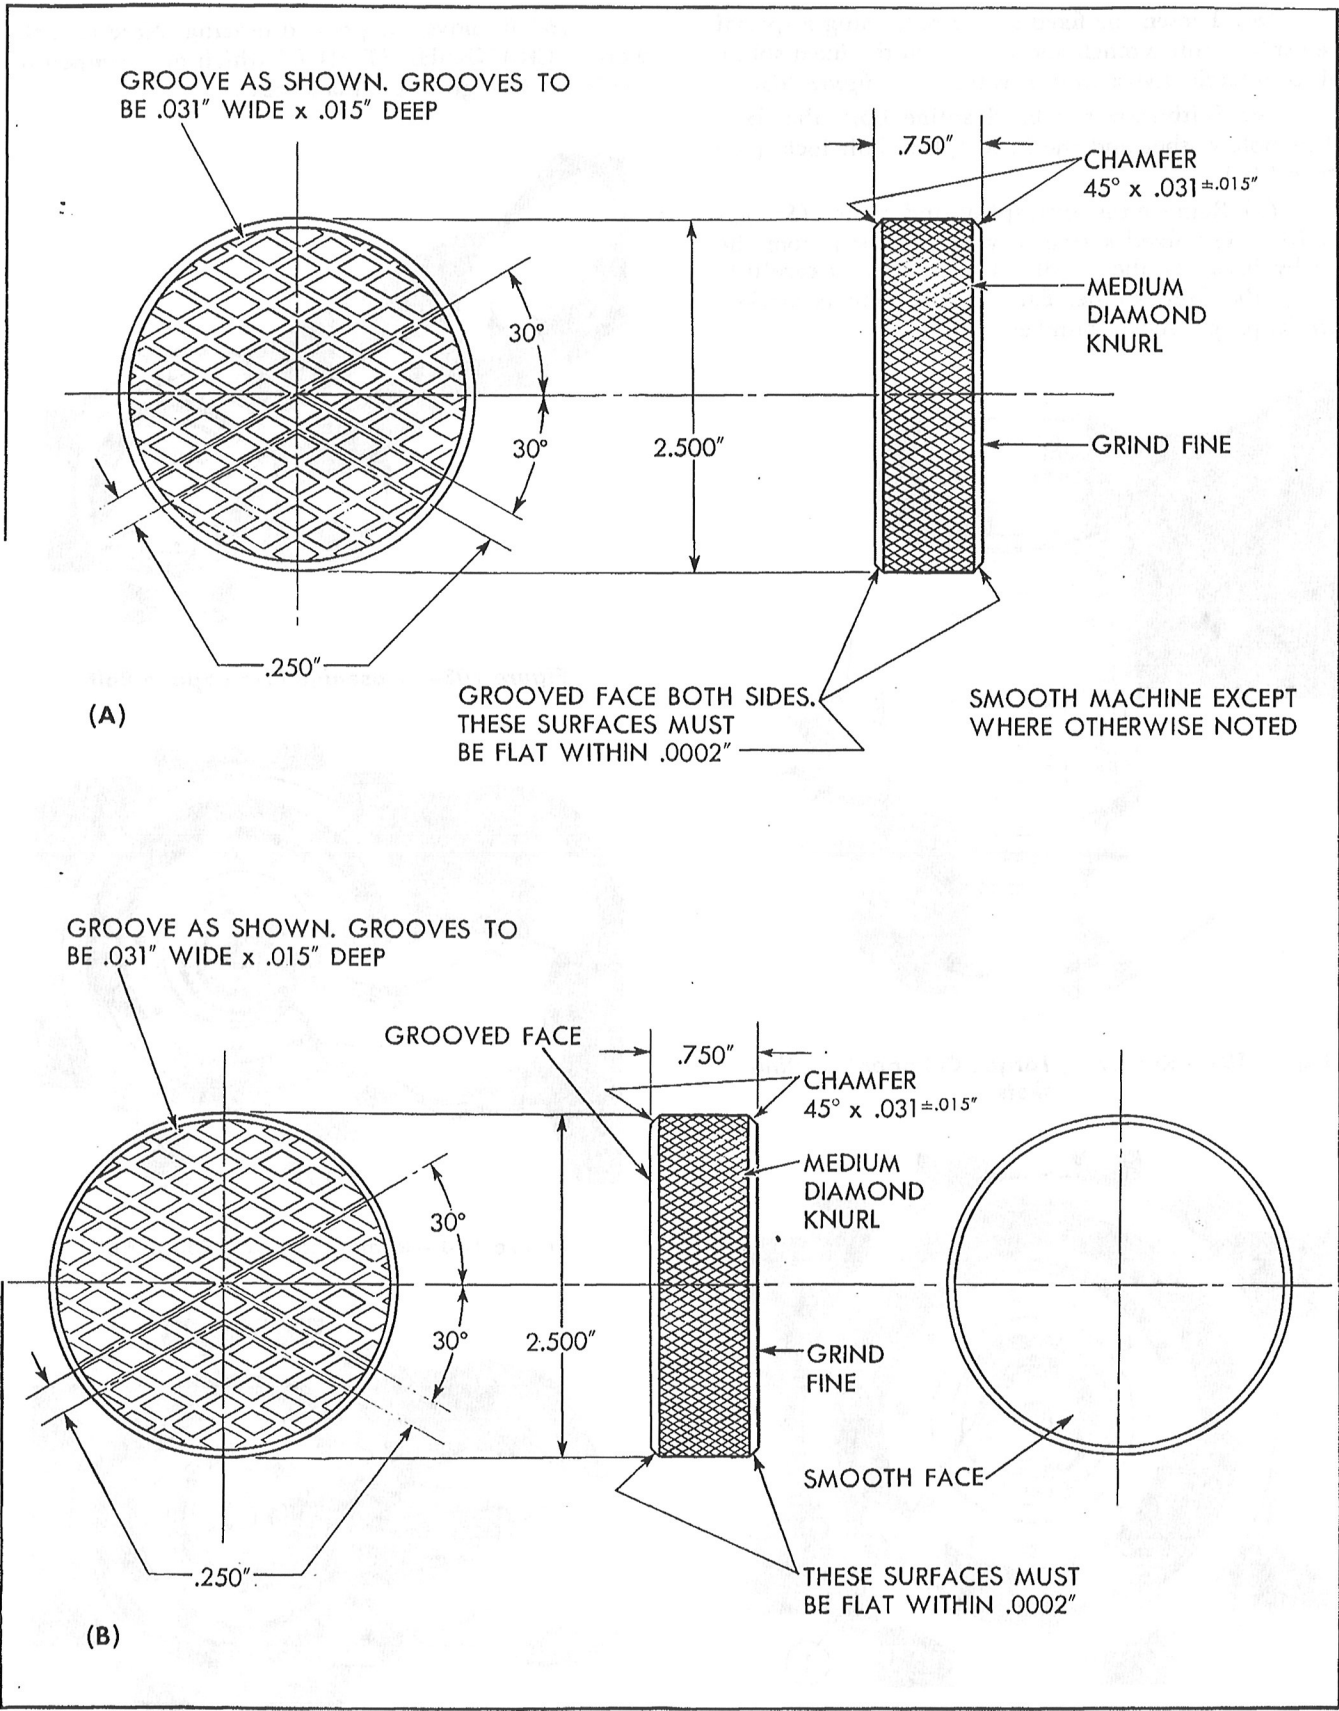

Figure 106—Lapping Blocks
Lapping blocks for performing the procedure can be made as illustrated in figure 106. One of the blocks has a grooved surface on each side, as illustrated in (A) figure 106. The second block has a grooved surface on one side and a smooth surface on the other, as illustrated in (B) figure 106. The smooth surface is used in checking the fixed spline boss for smoothness by bluing. Specifications for making the laps are given on the drawings. The lapping blocks should be used in pairs so that three lapping surfaces are available for maintaining flatness of the surfaces. This can be done by working the two grooved surfaces of the one lap against the grooved surface of the other lap.
- (1) Prepare the laps in the following manner:
(d) Check the surface of the fixed spline boss for flatness. First rub the smooth face of the lap illustrated in (B), figure 106 with a very thin, uniform coating of